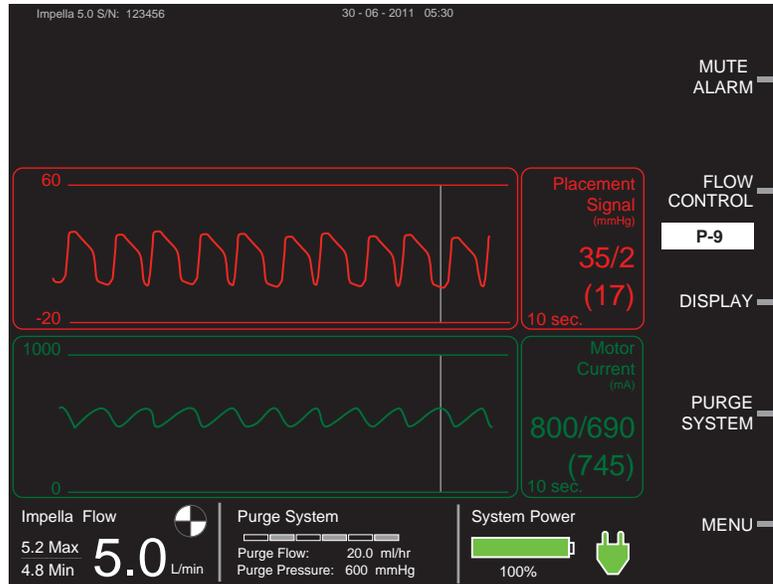

Figure 5.46 Confirming Placement on the Placement Signal Screen
- Increase the P-level to P-9 to confirm correct and stable placement. Evaluate the catheter position in the aortic arch and remove any excess slack. The catheter should align against the lesser curvature of the aorta rather than the greater curvature. Verify placement with fluoroscopy and with the placement screen (see Figure 5.46).